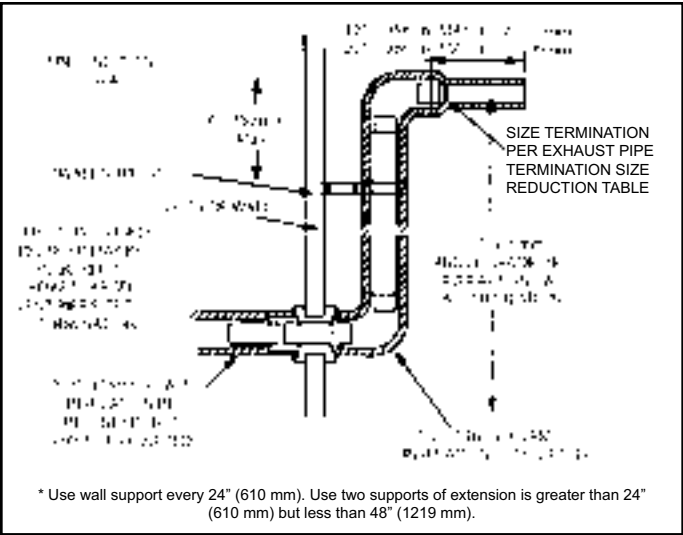

Figure 40. Non-Direct Vent Field Supplied Wall Termination Extended
- 3. If exhaust piping must be run up a sidewall to position above snow accumulation or other obstructions, piping must be supported every 24" (610 mm) as shown in Figure 40. When exhaust piping must be run up an outside wall, any reduction in exhaust pipe size must be done after the final elbow.